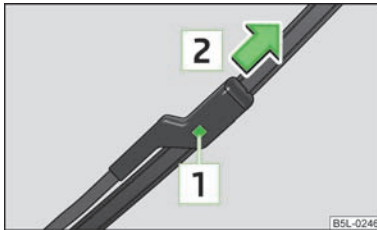

Fig. 37
- › Press the locking button **1** » Fig. 37 to unlock the wiper blade and pull off in the direction of the arrow **2**.